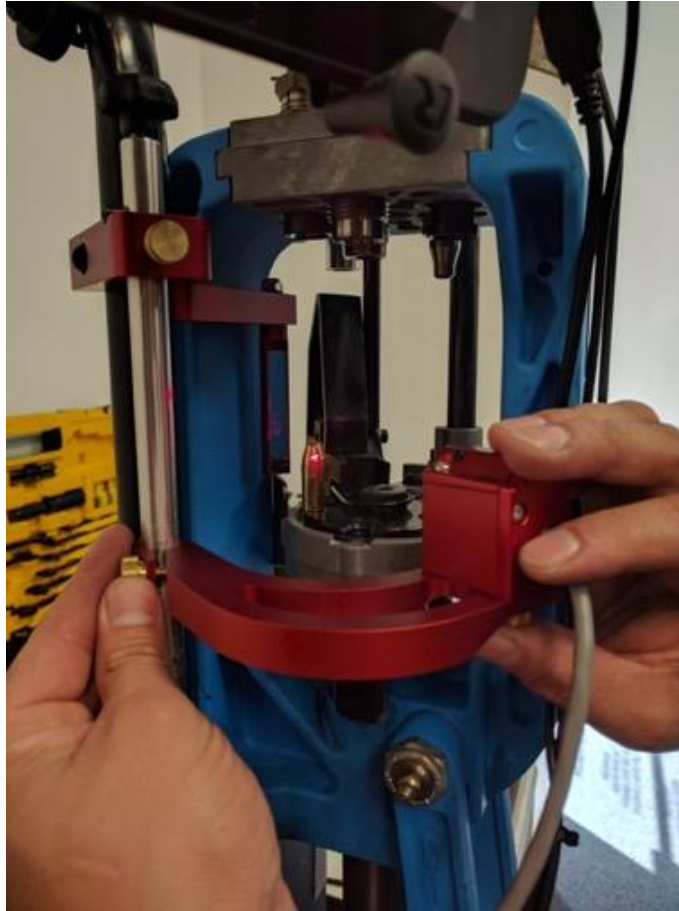

Figure 9: Setting Vertical height of laser
13. Loosen the brass thumb screw and gently position the sensor head mount (on middle curved arm) so the laser beam goes OVER the tip of the bullet and hits the mirror, the reflected beam should return and hit the tip of the bullet, so the beam path is broken as shown below (Figures 9 and 10). Once the height has been set, remove the bullet, and make sure the laser is still aimed at the sensor hole.